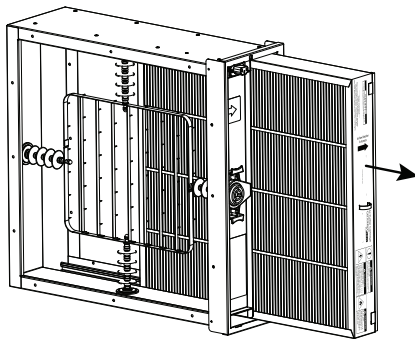

Fig. 6 – Removing Filter
3. Remove the Air Purifier cartridge and Filter Enhancement Module (FEM) from the Air Purifier cabinet. See Fig. 6 and 7.